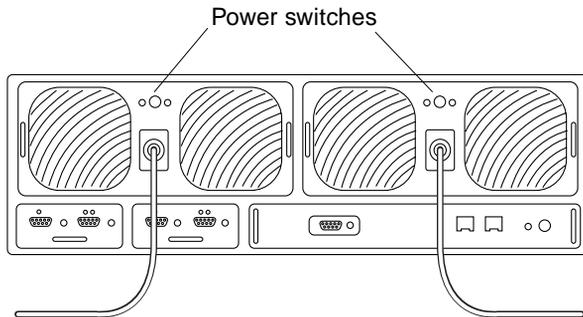

FIGURE 9-1 Power Switch Location
Press the power button once on each power and cooling unit to turn the switch off (FIGURE 9-1).
FIGURE 9-1 on page 9-2 shows the power button location. The AC and power supply (PS) LEDs on the power and cooling units will be green.